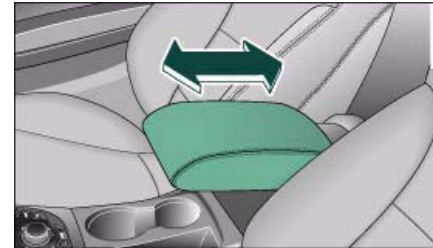

Fig. 81 Armrest between driver's seat and front passenger's seat
- You can move the armrest backwards or forwards ⇒ fig. 81.